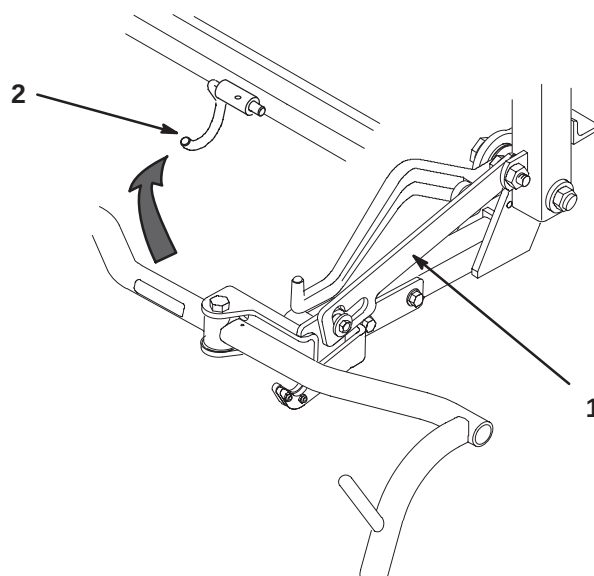

**Figure 11**
- A. Remove and discard the front shield assembly (Fig. 11). Also, remove and discard the shield mounting studs and fasteners secured to each cutting unit side plate.
- C. Bend the grass shield side deflectors outward until they are flush with the cutting unit side plates (Fig. 11).